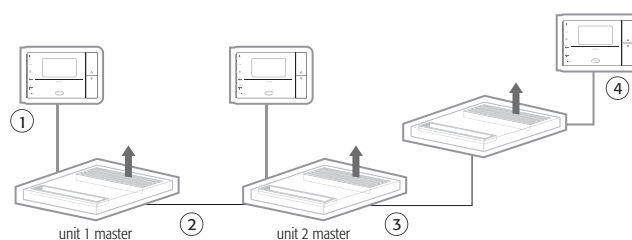

Fig. 5.b
- LOGIC 4: The master propagates ON/OFF, ECONOMY/SLEEP and control probe; all the remaining functions can be modified on the slaves. The control probe reading is the average of the probes (B1 or BT) on all the slaves in the zone. Useful for giving priority to control of the average temperature in a room rather than single point control (see Fig. 5.b).